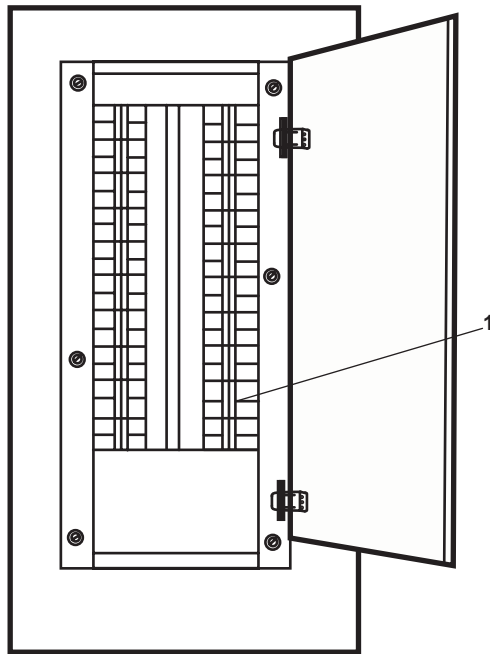

Figure 3. 120V Distribution Panel No. 4
3. At 120V distribution panel No. 4, set the ROWPU BATTERY CHARGER circuit breaker (figure 3, item 1) to ON.